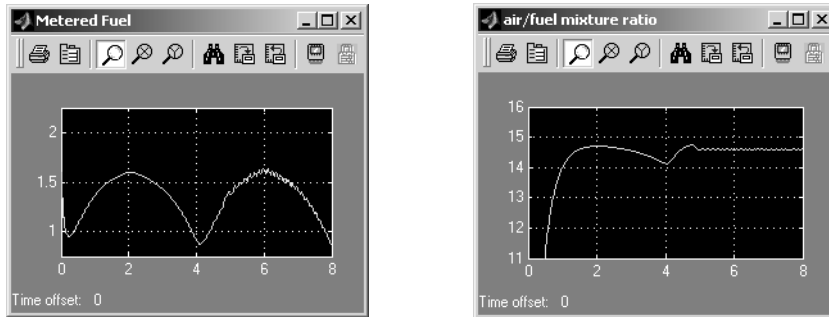

Figure 4-2: Signals Displayed at End of Simulation or Cosimulation
- 9 When the simulation completes, the signals displayed on the scopes should appear as shown in Figure 4-2.
- 2 Open the Scope blocks and start the simulation. When the simulation completes (simulation time is set to 8 seconds), the signals displayed on the scopes should appear identical to those displayed during the previous cosimulation (see Figure 4-2 on page 4-16).
- 2 Start the simulation. You will notice that the simulation completes much more quickly, due to the efficiency of the generated code. Also, observe that the generated code displays results, on the scopes, that are identical to the previous simulation and cosimulation (see Figure 4-2 on page 4-16).